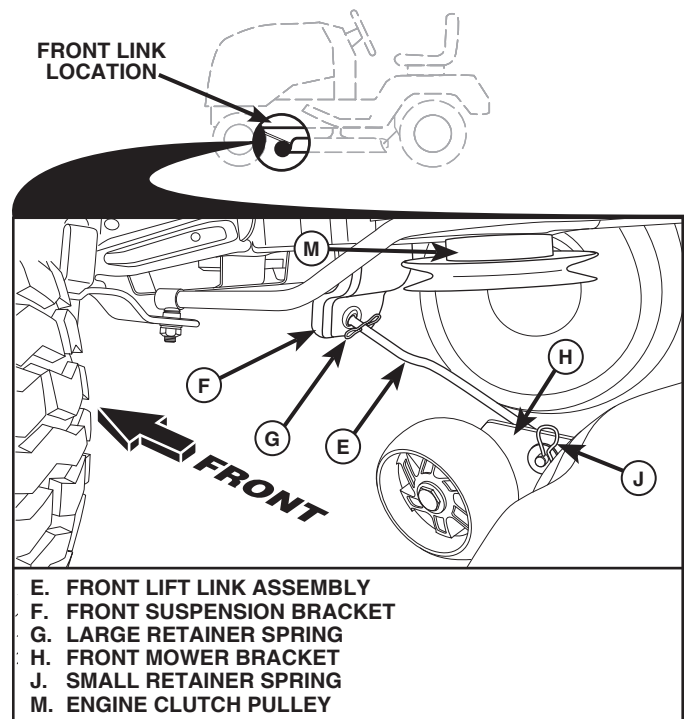

Fig. 14
8. ATTACH FRONT LINK (E) (See Fig. 14)
- From front of tractor, insert rod end of front link (E) through front hole in tractor front suspension bracket (F).
- Move to left side of mower and insert large retainer spring (G) through hole in front link (E) behind front suspension bracket (F).
- Insert other end of link (E) into hole in front mower bracket (H) and secure with washer and small retainer spring (J).